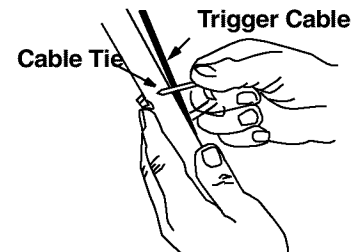

Figure 13
- Secure the right turn trigger cable to the right lower handle using cable tie provided in the hardware pack. Make sure not to wrap the drive cable. See Figure 13.